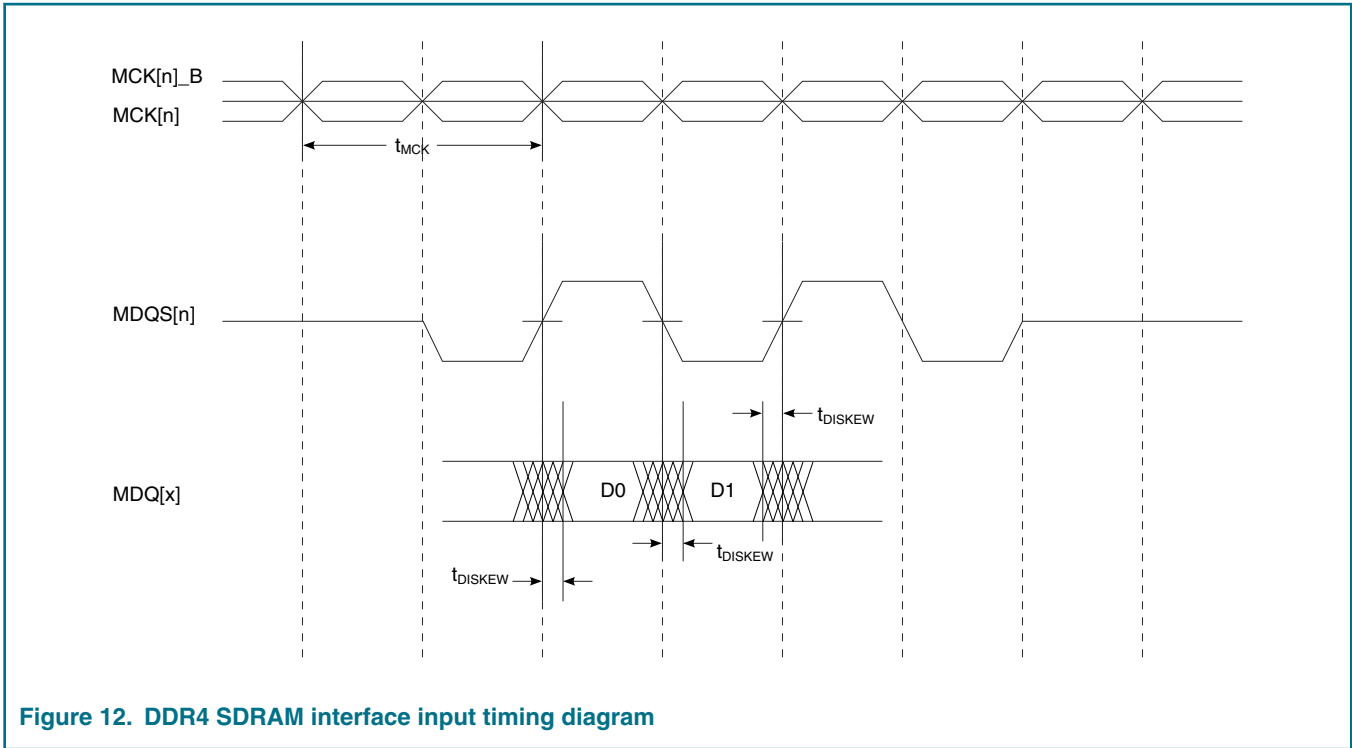

Figure 12. DDR4 SDRAM interface input timing diagram
1. See Figure 12 . on page 82.
3. See Figure 12, on page 82.
1. t _{CISKEW} represents the amount of skew consumed by the controller between MDQS[n] and any corresponding bit that will be captured with MDQS[n]. This should be subtracted from the total timing budget. 2. The amount of skew that can be tolerated from MDQS to a corresponding MDQ signal is called t _{DISKEW} . This can be determined by the following equation: t _{DISKEW} = +/- (T / 4 - abs(t _{CISKEW})), where T is the clock period and abs(t _{CISKEW}) is the absolute value of t _{CISKEW} . 3. See Figure 12 . on page 82.